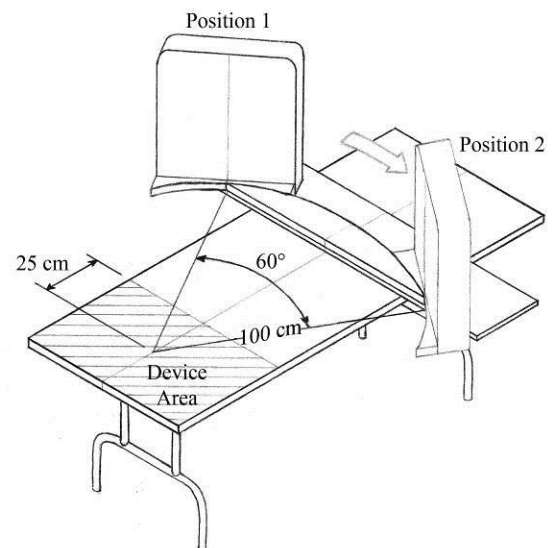

Figure 4
8. Electrical Power and Wind Direction Response (Figure 4)